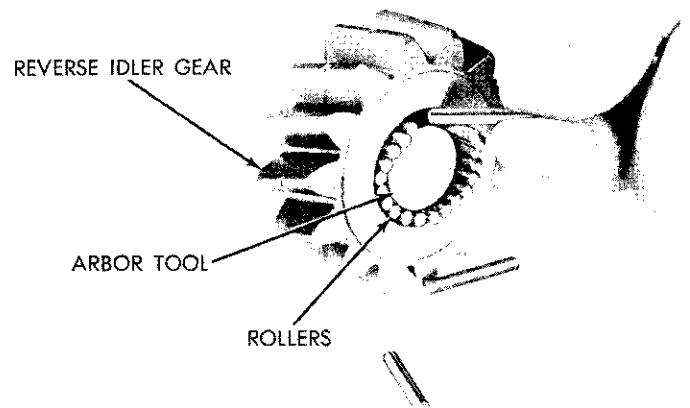

Fig. 32—Reverse Idler Gear—Roller and Arbor Assembly
(27) Place assembly arbor, Tool C-464 into idler gear along with 22 greased rollers (Fig. 32).
(28) Position reverse idler thrust washers in case with grease to retain them.
(29) Now position reverse idler gear with arbor and